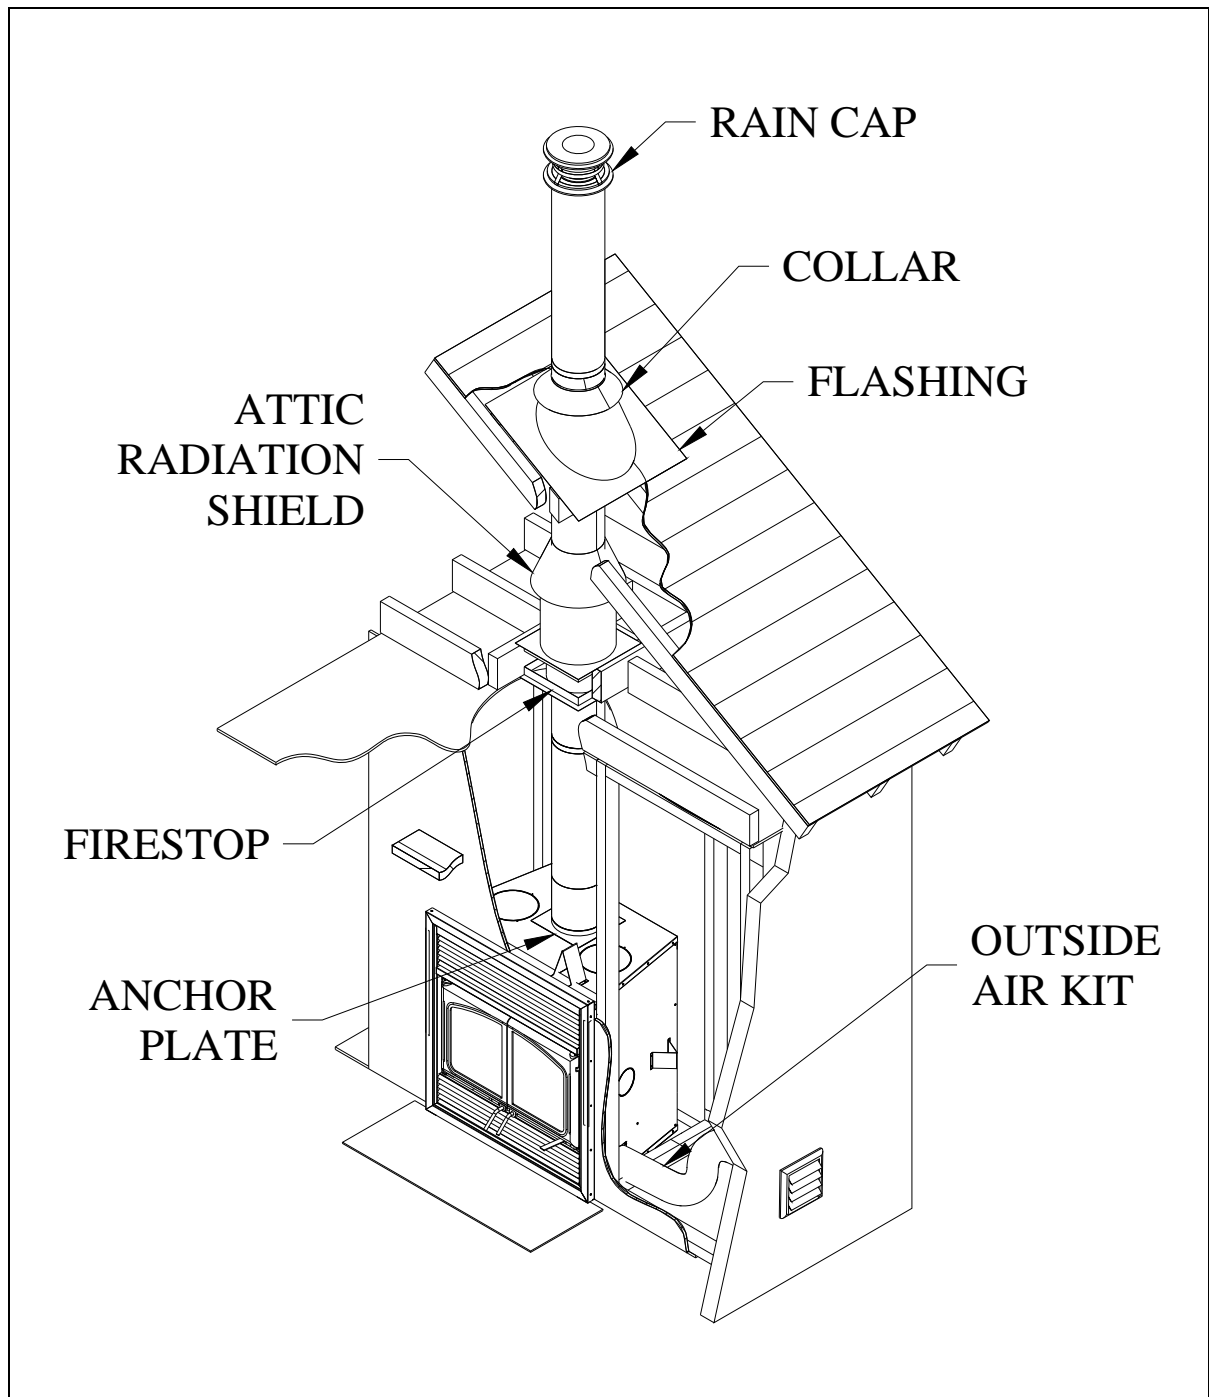

Figure 23
2. From below, install a firestop supplied by the chimney manufacturer in each ceiling/floor separation through which the chimney will pass. At the attic level, install an attic radiation shield from above (see figure 23).
3. Follow the chimney's manufacturers' instructions and place the first chimney length on the fireplace. For all chimneys, you must use an anchor plate supplied by the chimney manufacturer before installing the first chimney length (see figure 23). Continue installing chimney lengths making sure to lock each length in place.
5. Then, put the roof flashing in place and seal the joint between the roof and the flashing with roofing pitch (see figures 23). For sloping roofs, place the flashing under the upper shingles and on top of the lower shingles. Nail the flashing to the roof, using roofing nails.
5. From below, install a firestop supplied by the chimney manufacturer (see figure 23).